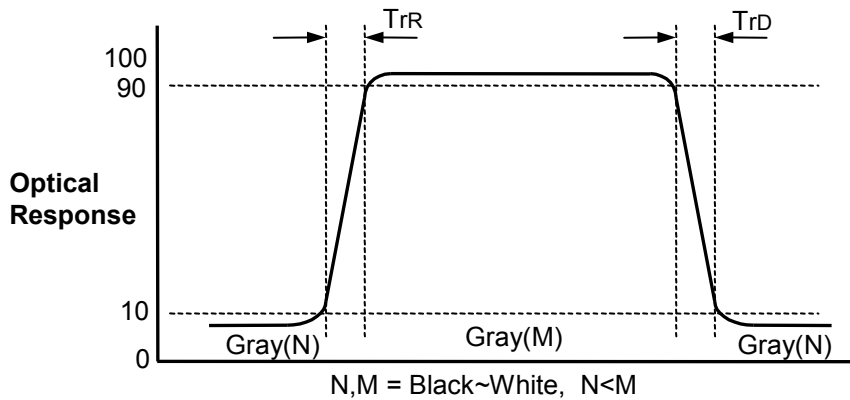

FIG. 3 Response Time
4. Response time is the time required for the display to transit from any gray to white (Rise Time,  $T_{R}$ ) and from any gray to black (Decay time,  $T_{D}$ ). For additional information see the FIG. 3.